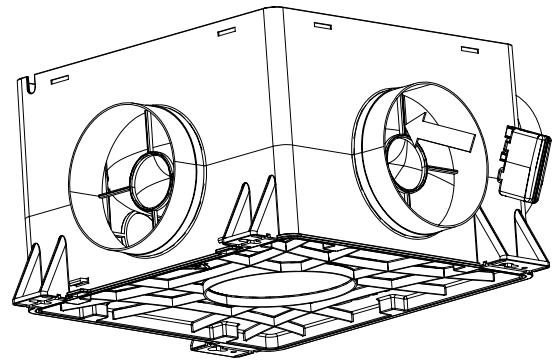

Figure 14: snap the CO₂ box sensor into the duct port
4. Pass the cable of the CO₂ Box sensor through the opening on the inside of the casing at the level of the corresponding duct port. Then pass the cable of the CO₂ Box sensor through the relevant opening (marked with 'sensor cable') of the motor plate according to the diagram shown below in Figure 14: four options for wiring a maximum of 1 CO₂ Box sensor to the circuit board.